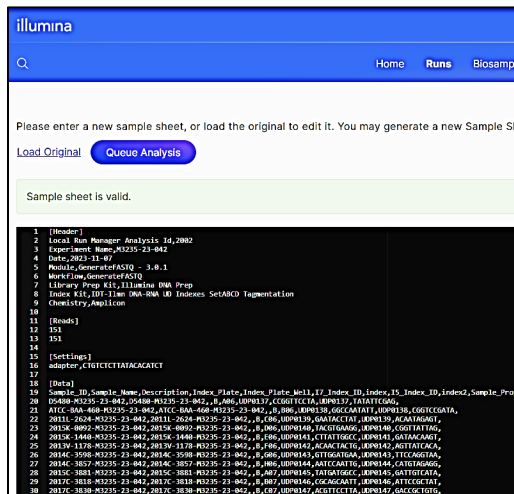

Figure 13. Copy and paste the corrected sample sheet for the run to be requeued.
2.2.4. Select “Load Original” to load the original sample sheet (Fig. 13).
2.2.5. Copy and paste from a plain text editor the corrected sample sheet and click on “Queue Analysis” (Fig. 13).